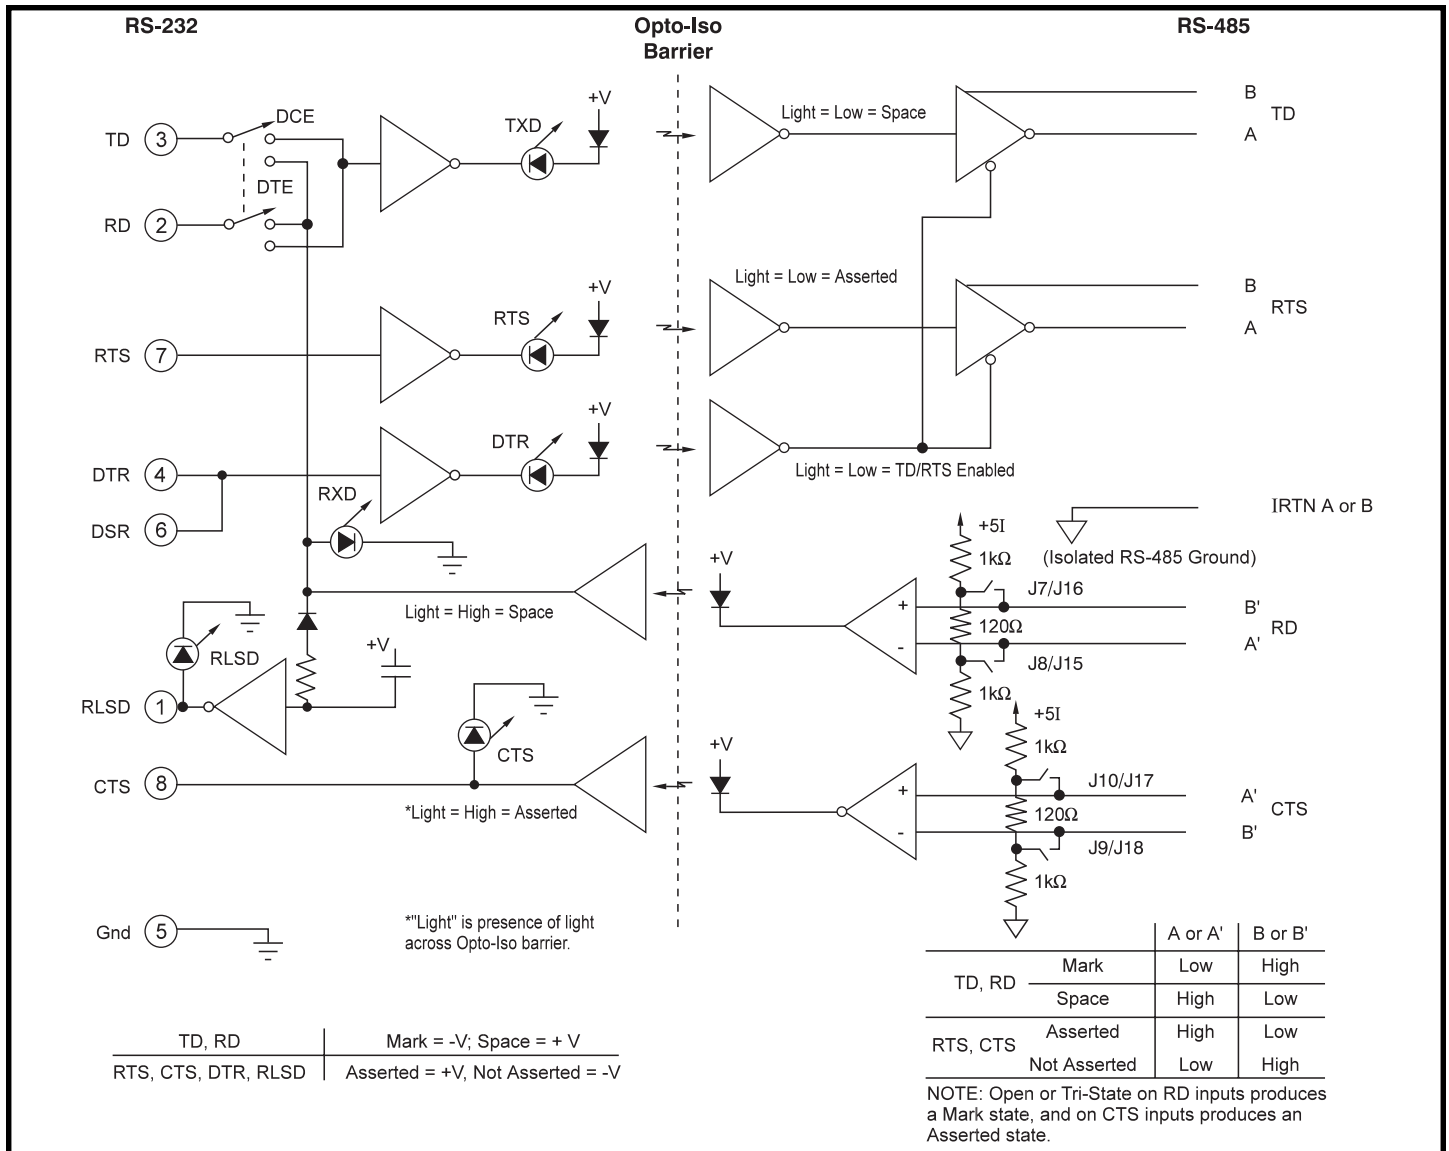
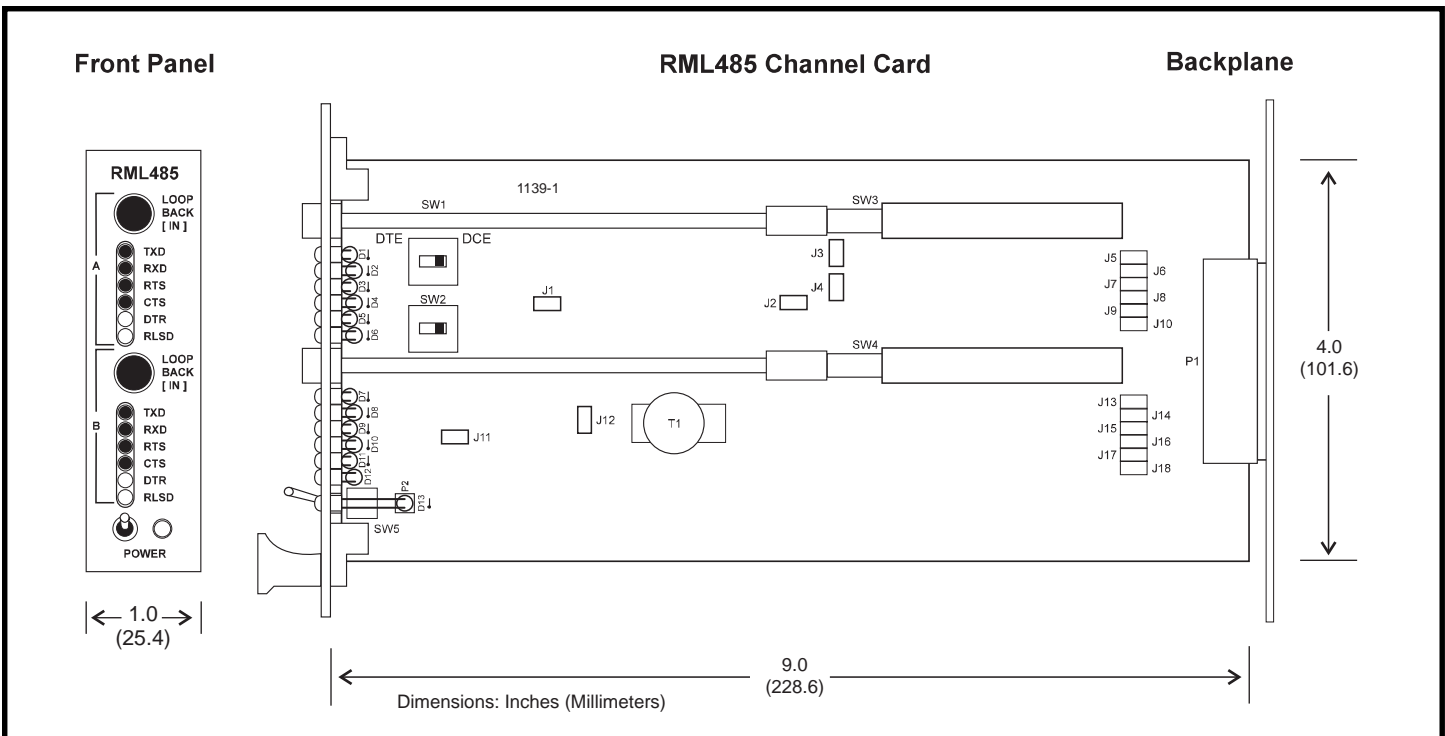

Figure 1: RML485 Logic Diagram (only 1 channel shown)
Figure 3: RML485 Mechanical Drawing
Data Terminal Ready, DTR, must be asserted before the RML485 can transmit data. This is normally done by the host computer. For situations where the host equipment does not have the capability of supplying a DTR signal, RLSD may be used to automatically assert DTR. On the RS-232 connector of each RML485, simply connect RLSD pin 1 to DTR pin 4. Alternately, DTR may be asserted continuously by closing J4 and/or J12 (figure 3). To terminate 4-wire transmission lines, use the appropriate jumpers from among J5-J10 (Channel A), J13-J18 (Channel B) (figures 1 and 3). This connection is not appropriate for multi-drop installations.
5. The RS-485 line should be terminated at both ends using line termination jumpers J5-J10, Channel A and/or J13-J18 Channel B (figure 3). Stub length off the main line should be as short as possible.
To move the DTR switch point from the +1 to +2V range to the -1 to 0V range, jumper J3 and/or J11 (figure 3).
For DSR continuous assertion independent of DTR, remove J4 and/or J12 (figure 3) and place over one pin.